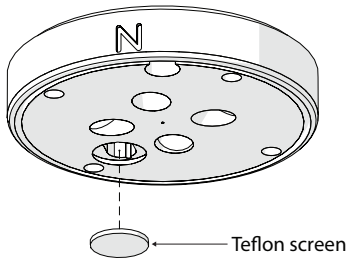

**Figure 19** Temperature needle and ultrasonic transducers
- **DO NOT** touch the temperature sensor needle (Figure 19).
- Avoid more than light pressure on the ultrasonic transducers (Figure 19).
2. Make sure nothing is obscuring the temperature sensor or the ultrasonic transducers shown in Figure 19 (cobwebs, leaves, wasp nests, etc.).
- c. Ultrasonic transducer openings (Figure 19)
**NOTE:** Do not allow water to enter the ultrasonic sensors (Figure 19). Water may corrode the metal parts inside the sensors and ruin them. Do not touch the temperature sensor when cleaning because it is very delicate and can be damaged if pushed into the ATMOS 41 body.